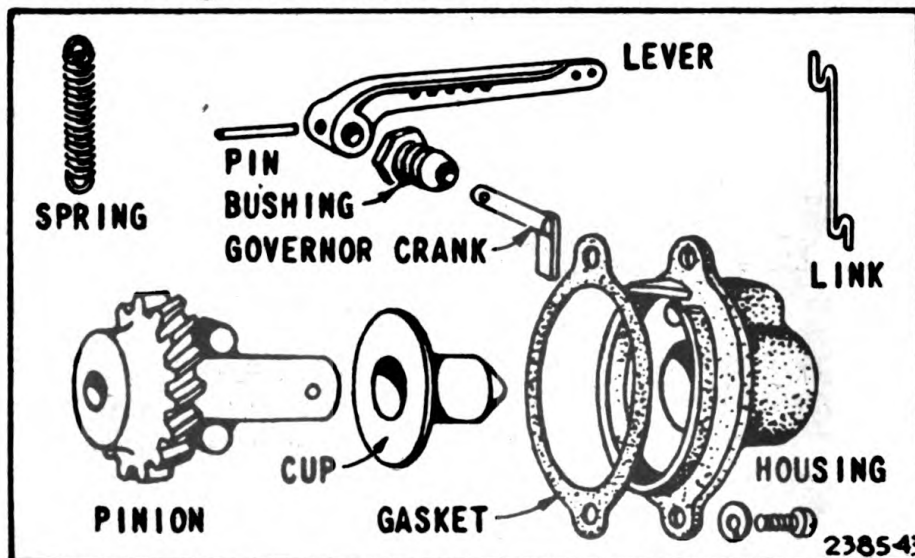
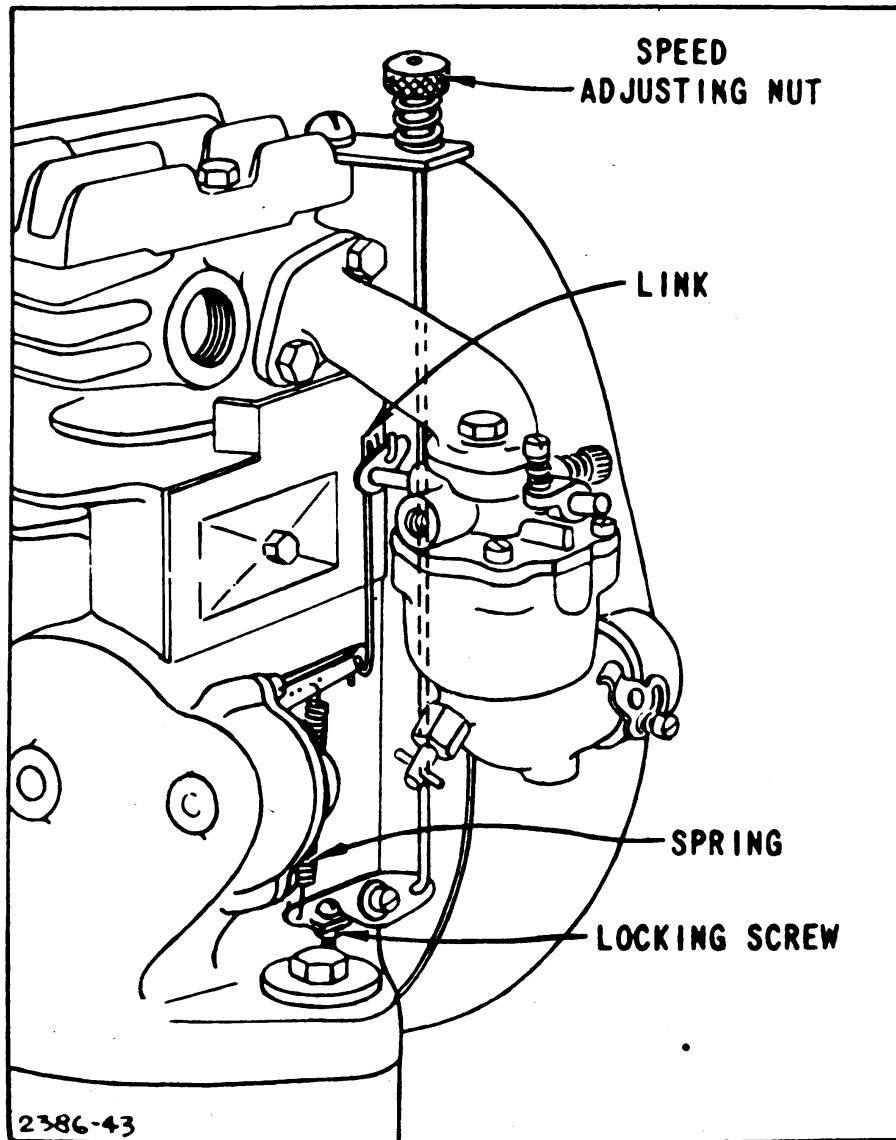

Figure 7.—Governor parts
Figure 8.—Carburetor and governor (mechanical) hook-up
gear (fig. 7). The cup is moved outward by action of the weights and in turn acts upon the crank and lever which are connected to the carburetor throttle. The governor lever is connected to the carburetor throttle by a link. Any movement of the governor weights, caused by a rise or drop in load affecting the engine speed, is immediately transmitted to the carburetor throttle, thereby increasing or decreasing the throttle valve opening. A spring for regulating and controlling action of the governor (fig. 8) is incorporated in the governor lever. This spring is adjustable by means of a thumbscrew, the speed-regulating nut. Recommended operating speed is 2,700 rpm at no load.
To adjust carburetor, completely close needle valve (figs. 8 and 9) by turning to the right or clockwise as far as possible. Do not screw valve
b. On PE-77-D and E a speed regulator is located on top of the cylinder above the carburetor (fig. 8). Turn the regulator to the right to increase speed and voltage; to the left to reduce engine speed and voltage. Adjust so that the voltage reads 115 volts at full load.
- c. To inspect and clean governor parts (PE-77-D and PE-77-E):—(1) Remove carburetor by disconnecting fuel line and removing two screws at top and one at bottom.
- (2) Unhook throttle link (fig. 7).
- (3) Unhook spring.
- (4) Remove two screws which fasten governor housing to crankcase and lift off housing.
- (5) Remove cup and pinion
- (6) Clean parts in Diesel oil or cleaning solvent (Federal Specification P-S-661A) and inspect them carefully.
- (7) Replace worn parts with new ones and assemble with new lubricant.